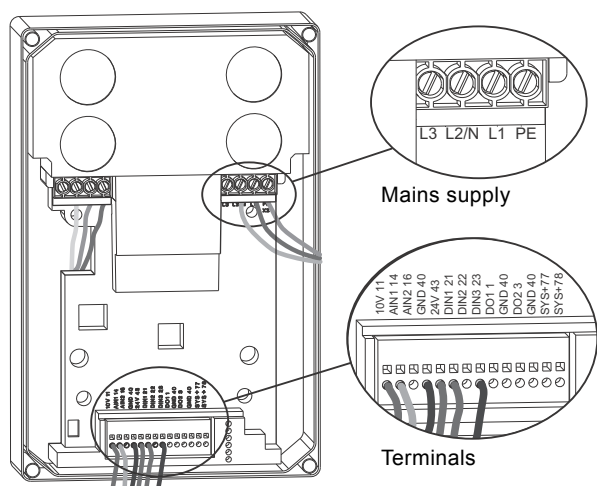

Fig. 1 Electrical connections, overview
5. Connect the wires to the power supply plug according to the terminal diagrams printed in the VFD, see fig. 1 mains supply.
- 1-phase VFD variant: connect phase line (L1) to L1, neutral line (N) to L2/N and protective earth (PE) to PE.
- 3-phase VFD variant: connect phase lines (L1, L2, L3) to L1, L2/N and L3, and connect protective earth (PE) to PE.
See fig. 1 terminals.